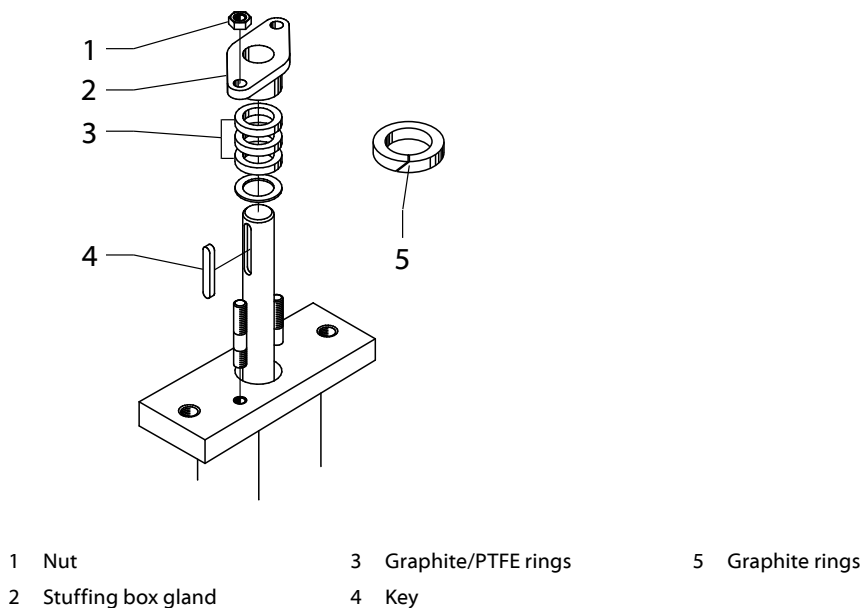

Fig.6-4 Assembly of the stuffing box
1. Check the stuffing box after starting up and after this regularly. Retighten the nuts of the stuffing box gland if necessary (→ Fig.6-4/1).
When using graphite stuffing boxes, the actuator can remain installed. In this case you can install the graphite rings by cutting through them at an angle and then carefully pushing them over the shaft (→ Fig.6-4/5).
1. Remove the key (→ Fig.6-4/4) and undo the nuts (→ Fig.6-4/1).
2. Remove the stuffing box gland (→ Fig.6-4/2) and insert the graphite rings (→ Fig.6-4/5).